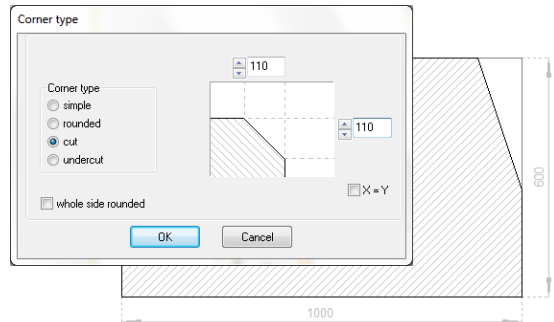

Fig. 213 – cut corner
- enter the appropriate cut values (if both values are to be identical, select **x=y**) (Fig. 213);